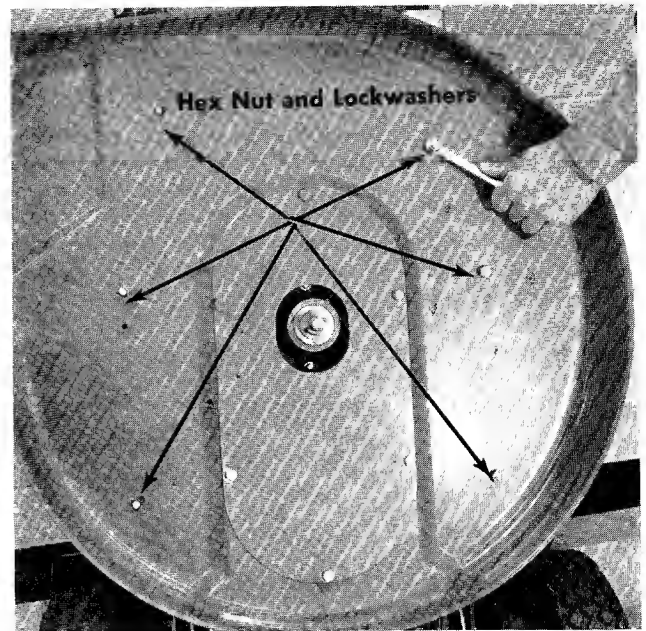

FIGURE 18. REMOVING THE DECK
Step 3. Take off the deck by removing the six hex nuts and lockwashers as shown in figure 18.